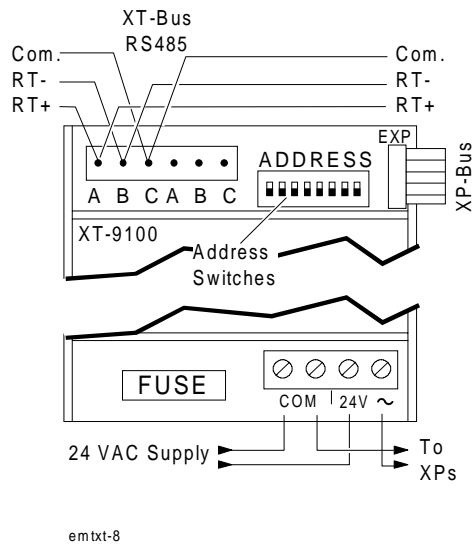

Figure 10: XT-9100
- a) Terminations are made via the terminal blocks on the upper and lower parts of the modules that accept 14 AWG (1 x 1.5 mm²) cable. See Figures 10 to 16 for details.